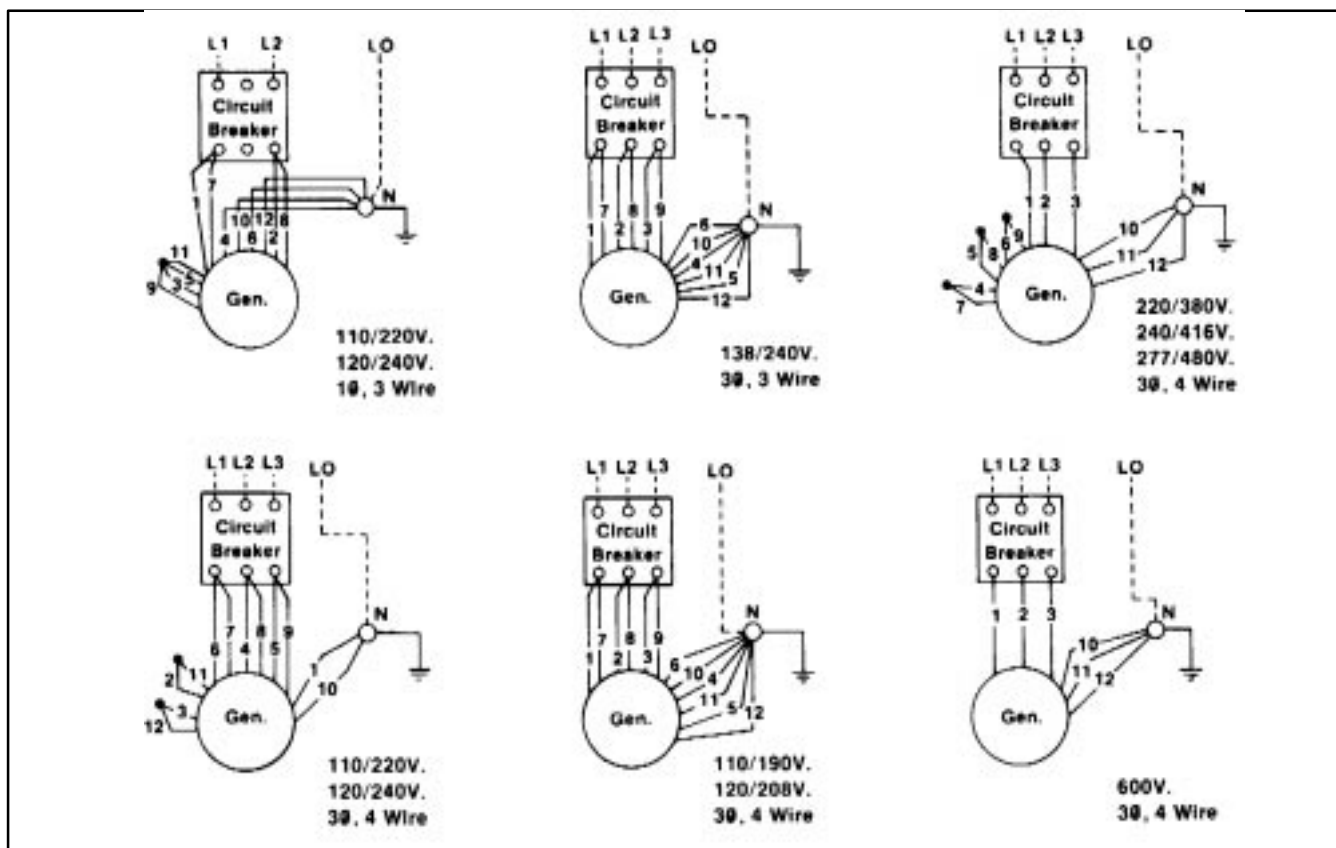

Figure 3. Circuit Breaker Wiring Diagram
6. Wire the circuit breaker according to proper wiring diagram, see Figure 3.